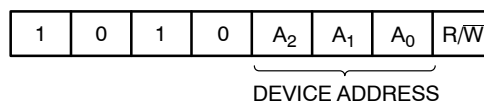

Figure 3. Slave Address Bits
The Master addresses a Slave by creating a START condition and then broadcasting an 8-bit Slave address. For the CAV24C64, the first four bits of the Slave address are set to 1010 (Ah); the next three bits, A₂, A₁ and A₀, must match the logic state of the similarly named input pins. The R/ \overline{W} bit tells the Slave whether the Master intends to read (1) or write (0) data (Figure 3).